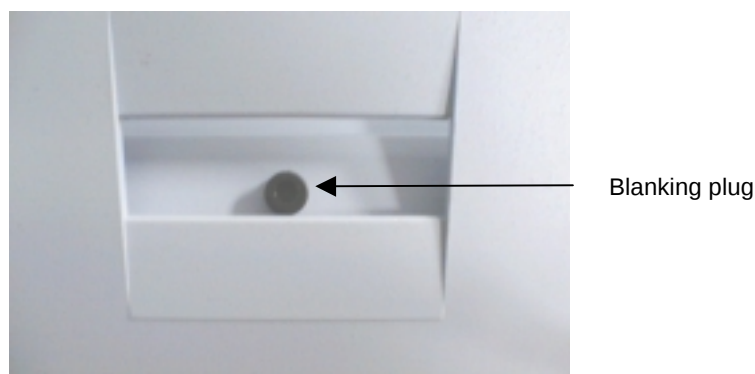

Figure 29 The blanking plug
3. Remove the blanking plug from the LS-50B sample area door, as shown in Figure 29.